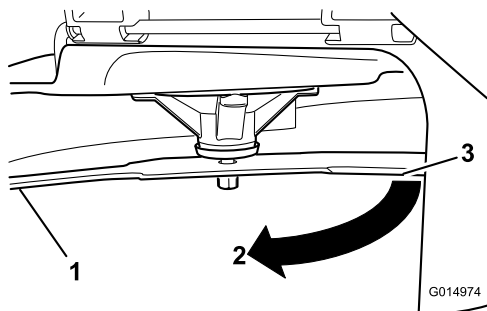

**Figure 91**
5. Measure from the tip of the blade to the flat surface (Figure 91).